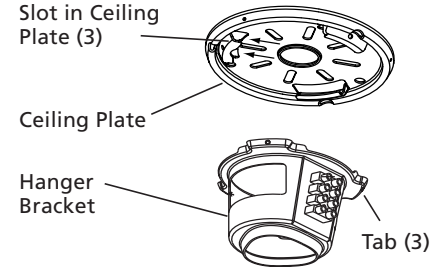

Figure 5a - Aligning the Hanger Bracket with the Ceiling Plate
2. Carefully lift the fan assembly and position the hanger bracket with the ceiling plate as shown in Figure 5a.